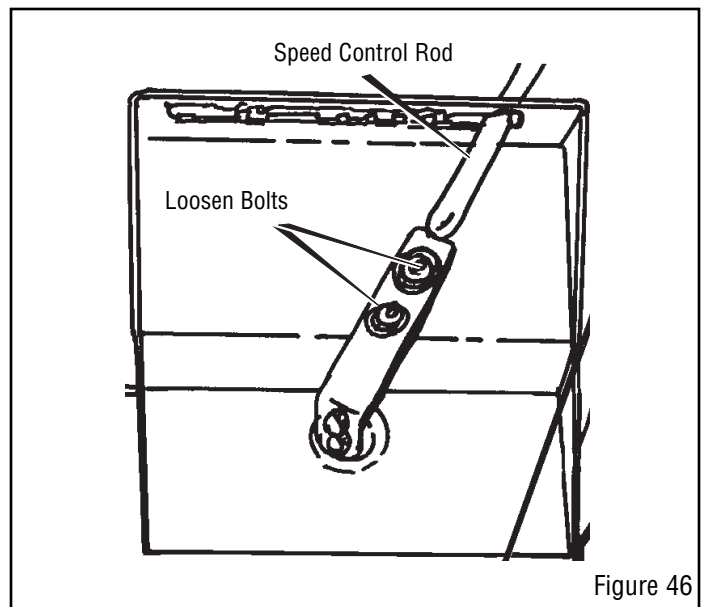

Figure 46
2. Loosen the **bolts** on the **speed control rod** (see Figure 46).
4. Tighten the **bolts** on the **speed control rod** (see Figure 46).